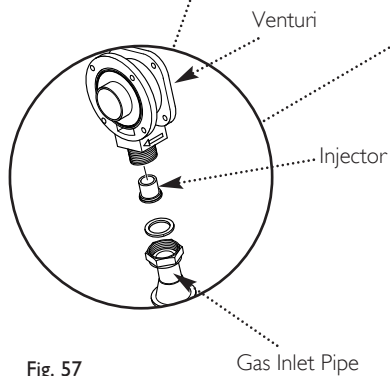

Fig. 57
6. Undo the nut on the gas inlet pipe to the venturi (Fig. 57) and pull the sensing pipe off the fan.